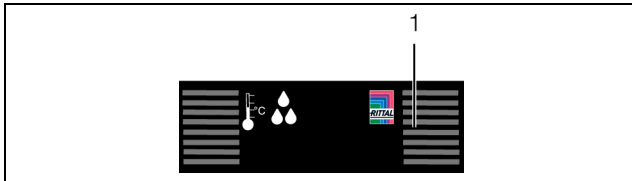
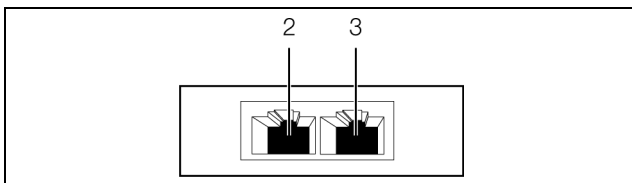

Fig. 11: Front of the temperature/humidity sensor
Fig. 12: Rear of the temperature/humidity sensor
A multi-LED for the status display is integrated into the front of the temperature/humidity sensor (fig. 11, item 1). Further LEDs are located at the rear on the CAN bus connection (fig. 12, item 2 and item 3).